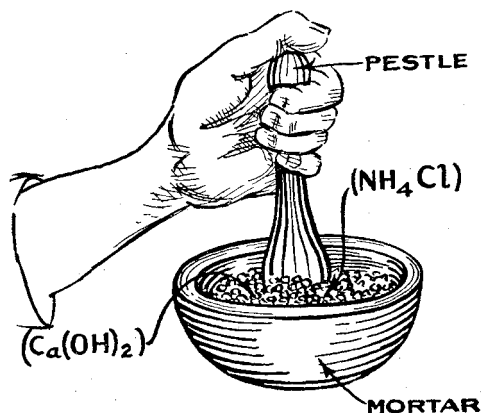

FIG. 102.—Rubbing Up Sal Ammoniac and Slaked Lime in a Mortar.
**How to Make Ammonia on a Larger Scale.** Put 1 ounce of ammonium chloride ( $NH_4Cl$ ), that is, *sal ammoniac*, into a mortar and powder it, as shown in Fig. 102; now powder 1 ounce of calcium hydroxide ( $Ca(OH)_2$ ), which is slaked lime, in a mortar and then mix them well together. This done, put them into a glass flask, add a little warm water ( $H_2O$ ), and put in a cork that has a delivery tube in